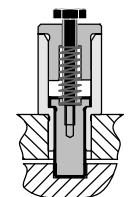

Fig. 4
- Turn a screw (→ table Fig. 5) into the thread of the orifice [2] of the end-position locking until the bolt locks the piston rod (→ Fig. 4).